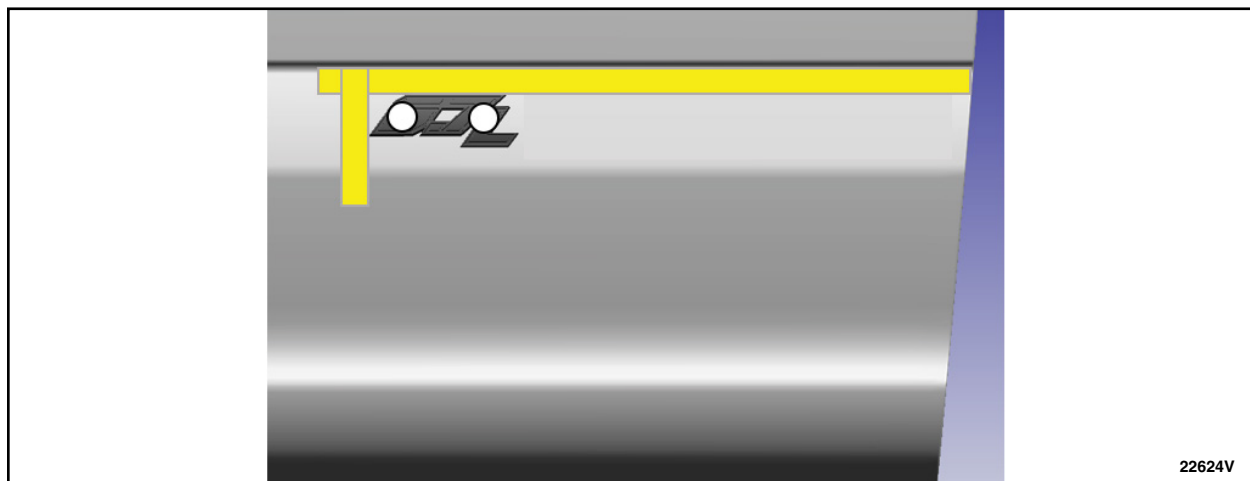

FIGURE 9
35. Remove the tape liner from the back of the badge and install to the door using the locating tape to properly align the badge. See Figure 9.
36. Using medium hand pressure, press for 3 seconds at a minimum of 2 separate locations along the length of the badge until the tape is fully adhered. See Figure 9.